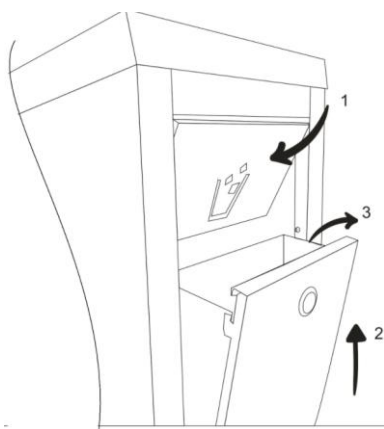

Fig.16
- Remove the superior rear panel (Nº.10) by loosening the screws and also the front panel (Nº.7) as shown in Fig.16. This will allow you to access all accessories sent inside the product as well as their assembly.
Remove the front panel following the steps shown in the Fig.16.